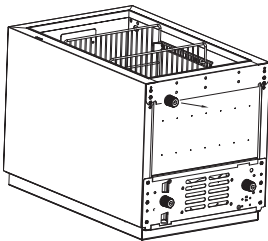

Figure 4
3. Gently tilt the appliance from an upright position to placing it on its back. Ensure the ground is flat and smooth and does not cause any damage to the appliance. (Fig. 4)
4. Remove the lower hinge from one side and install it on the opposite side. (Fig. 4, 5)